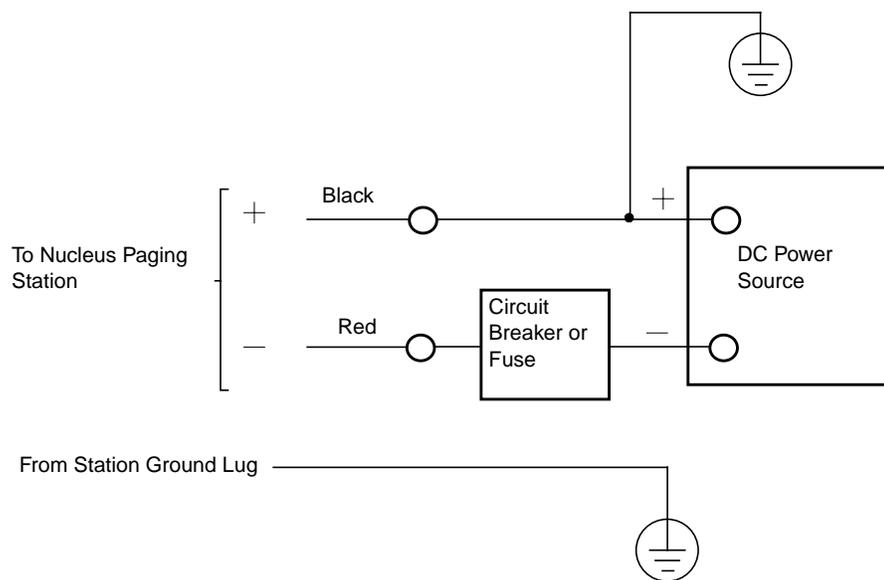

Figure 5-9: Negative Voltage DC Power Supply
1. Connect the black-coated wire to earth ground (see Figure 5-9).